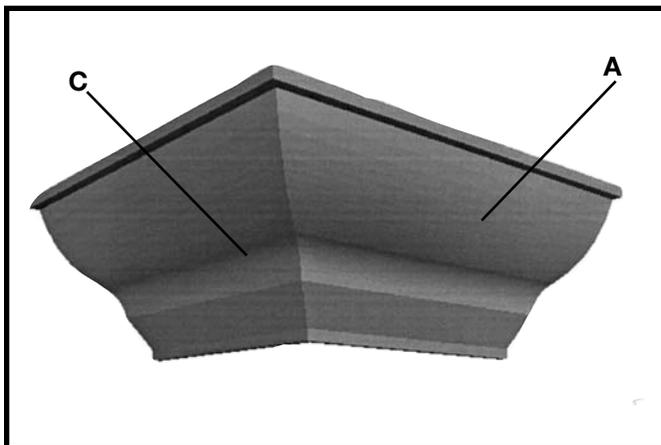

Fig. 41
6. Fig. 41, illustrates the two outside corner pieces; (A) being the piece cut at (A) Fig. 41, and (C) being the piece cut at (C) Fig. 41.